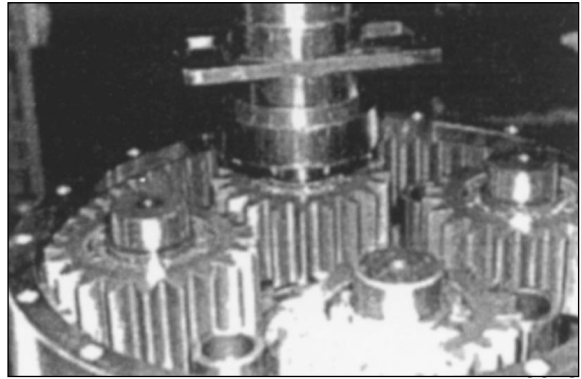

Figure 103
12. Install four planetary gear assemblies, using press. Figure 103.